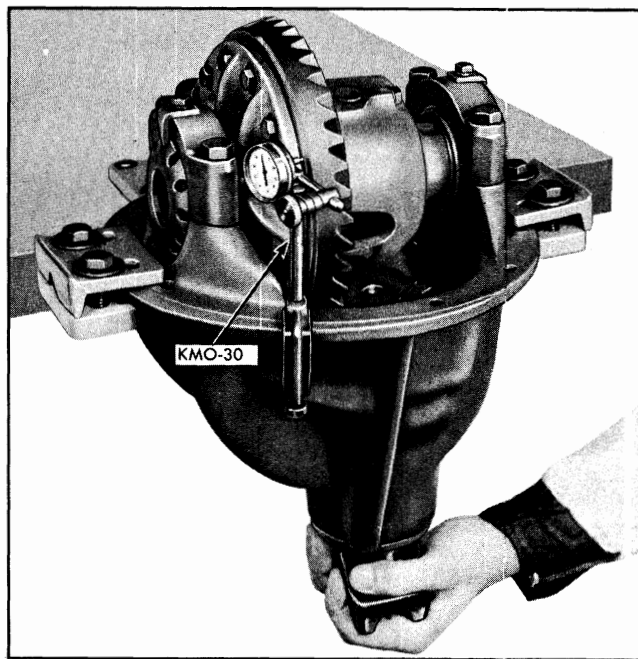

Fig. 4-60 Checking Ring Gear Run-out with KMO-30 Set
26. Position indicator KMO-30 at side of ring gear and check ring gear run-out. Run-out should not exceed .002" (Fig. 4-60).